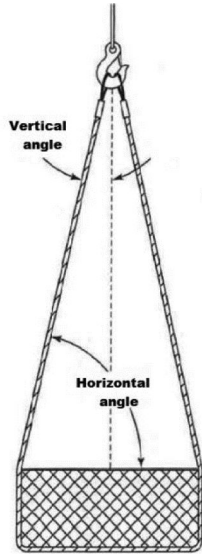

Figure 18
- Angle of loading (see Figure 18, Angle of Loading);
(b) Prohibit the use of horizontal sling angles less than 30 degrees unless recommended by the sling manufacturer or a qualified person. See Figure 18.